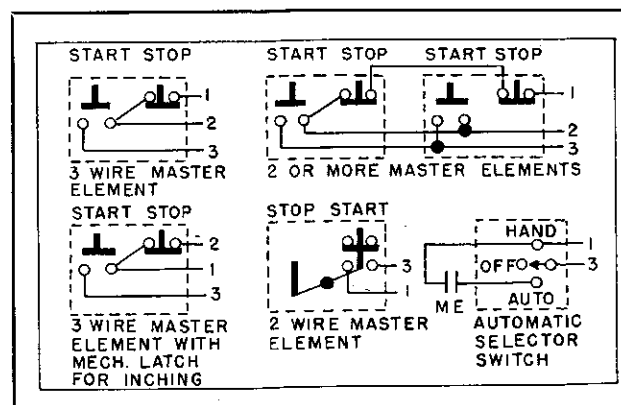

FIG. 2. Optional Connections to Master Elements Class 11-200
Fig. 2, page 2, shows some optional master element (Pilot Device) connections for Class 11-200 linestarters. These will often apply directly or with slight modification to the combination, reversing, and multi-speed starters also. Compare the specific elementary diagram for the starter under consider-
The inching connection shown in Fig. 2 is a simple low cost scheme that should be applied only after due consideration of the following points:
d. The latch which is used to latch the stop button down is the same latch which is sometimes used to lock the stop button open for safety in maintenance or shut-down procedures. If the inching connection of Fig. 2 is used, locking the stop button down has no element of shut-down or safety protection as start button will still start motor.